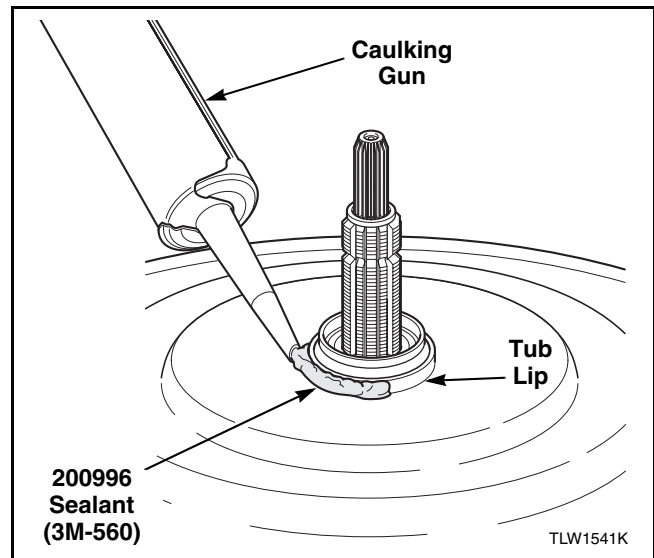

Figure 56
- Using the caulking gun, apply a 3/8 to 1/2-inch (9.5 to 12.7 mm) bead of No. 200996 Sealant (3M-560) around top and edge of tub lip. Refer to Figure 56.